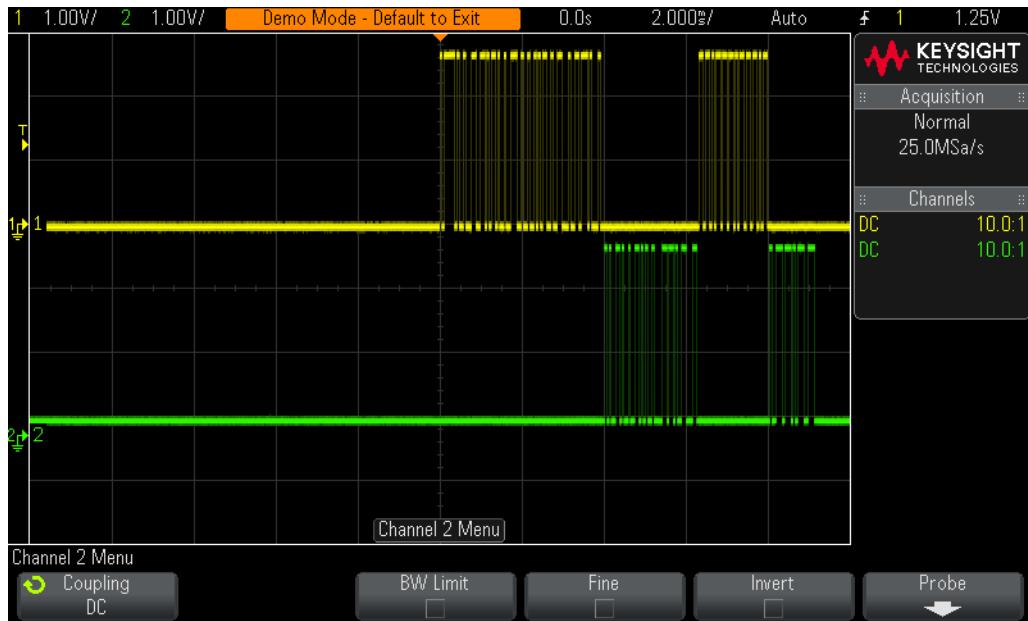

Figure 43 Capturing RS232/UART transmit and receive data signals using the scope's Edge triggering mode.
You should now see on your scope's display what appears to be an un-triggered display of two digital signals similar to **Figure 43**. Your scope is actually triggering on random rising edges of channel-1, which is the scope's default trigger condition. But these signals are too complex to establish a unique trigger point using simple edge triggering. The signal captured by channel-1 is an RS232 serial receive data signal (RX), and the signal captured by channel-2 is an RS232 serial transmit data signal (TX). Let's first set up the scope to intelligently decode this data stream based on the RS232/UART protocol, and then we will establish a more unique trigger point using RS232/UART triggering.